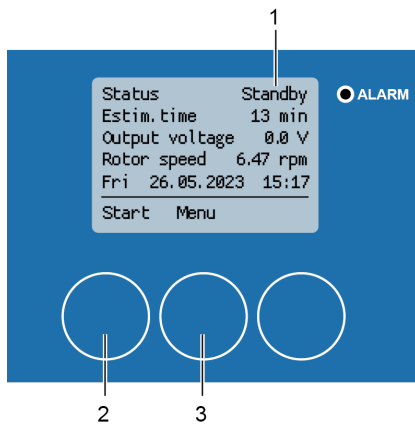

Fig. 164: Cleaning process start screen
⇒ After the cleaning carriage has reached its starting position on the rotor circumference, the cleaning process is complete. The status indication switches to “Standby” (Fig. 164//1).
2. Press **[Start]** (Fig. 164/2) to start the cleaning process again or **[Menu]** (Fig. 164/3) to open the “1 Main menu” menu.